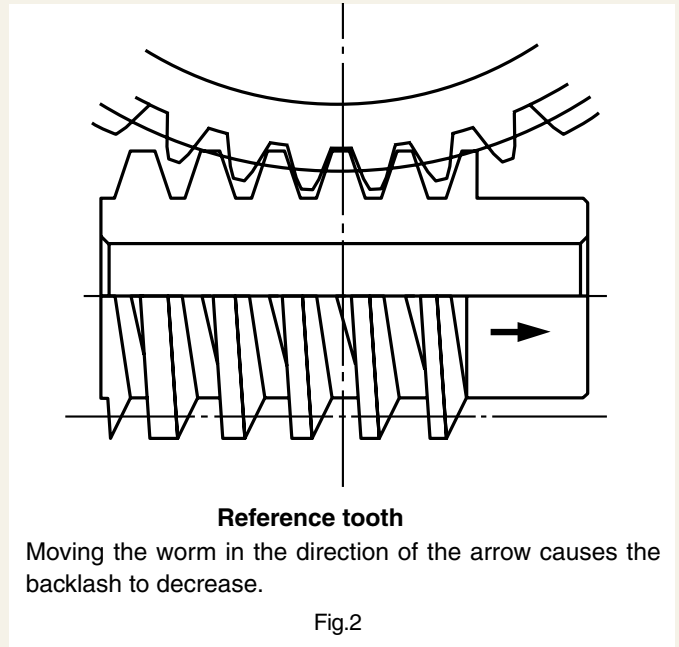

Fig.2
- ② To open up the bore to its maximum, calculate the bore size so that the tooth strength is weaker than the strength of the remaining material.
- ③ Some of SWG and KWG ground worms in small modules become hardened during heat treatment to the depth of 1 to 2mm below the root. Caution must be exercised when performing secondary operations on the bore.
- ④ Heat treating SW worms will increase lead and pressure angle errors. Therefore, pay special attention to the backlash and tooth contact.
- ⑤ PG plastic worm wheels are susceptible to effects of temperature and moisture. Dimensions may change between during remachining operations and afterwards.
- ① KHK stock worms and worm wheels are designed such that when assembled according to the specified mounting distance with a tolerance of H7-H8, the backlash shown in the product tables is obtained. Do not attempt to eliminate backlash by pushing worms into worm wheels or operate with the worm shifted in the direction along the tooth.
- ② Because of the helix of the gear teeth, worms and worm wheels produce axial thrust forces. The directions of thrust depend on the hand of the helix and the direction of rotation. This is illustrated below in Fig.2. The bearings must be selected properly to be able to handle these thrust forces.
When the worm is held with arrow mark pointing right, the tooth thickness is thinner on the right and thicker on the left. Therefore, moving the worm to the right causes the thicker teeth to come into actual engagement with the worm gear, thereby reducing the backlash (Fig.2)